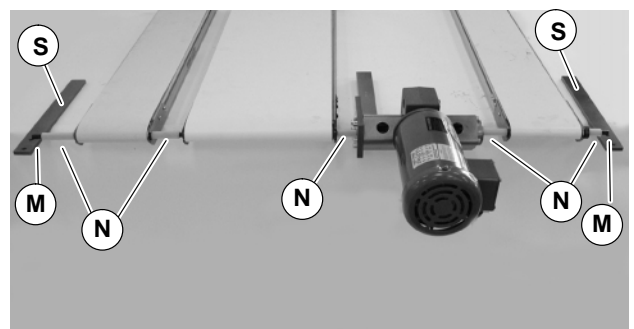

Figure 34
4. Remove hex shafts (M of Figure 34) and shaft cover pieces (N).